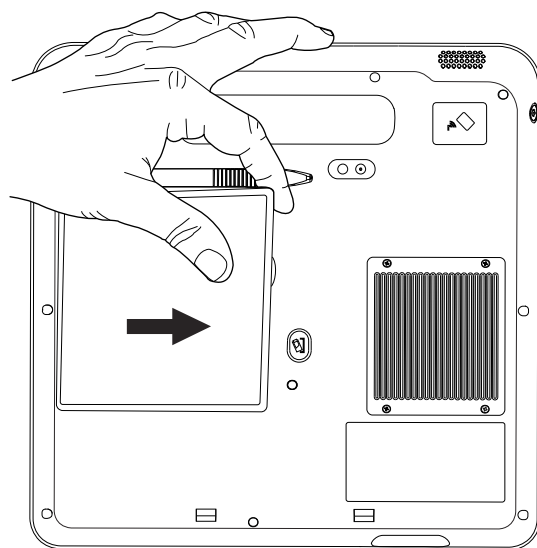

Figure 40. Removing the battery.
3. Remove the battery from the programmer (Figure 40).